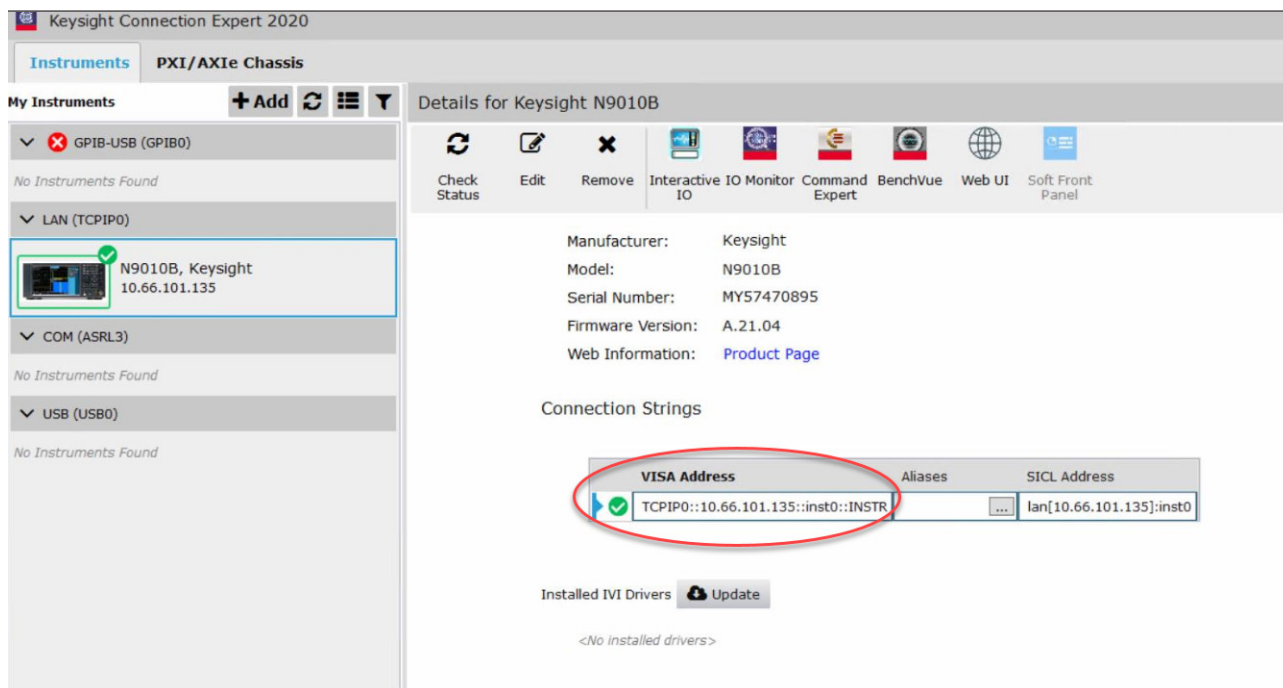

Figure 26 Checking VISA/SICL address for Spectrum Analyzer in the Keysight Connection Expert
- 11 A pop-up box appears where you can enter either the VISA/SICL address or the IP address. Enter the information and click the **Verify** button, followed by the **Done** button to close this box. The VISA/SICL address or the IP address can be obtained from the Keysight Connection Expert application, as shown in Figure 26.